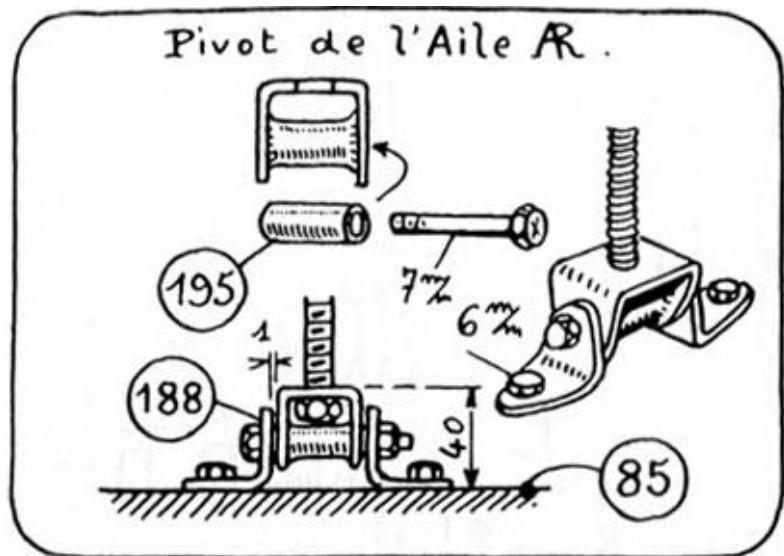

Figure 6.5: Rear-wing pivot
The axis of rotation (195) for the rear wing is held between two brackets (188), which are fixed to cross-member (85) of the fuselage by two 6mm bolts (fig. 6.5).